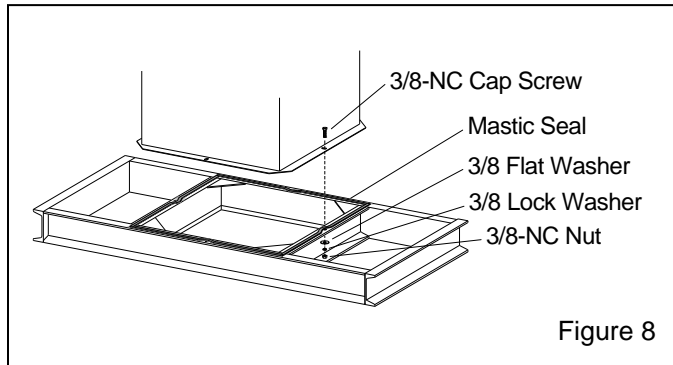

Figure 8
Refer to Figure 8.
2.5.2 Apply mastic to the center of the top frame channels and on the inward side of the bolt holes, as shown in Figure 8.